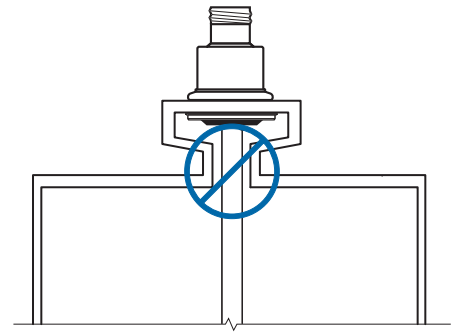

Figure 3
3. Pipe reducers that create restriction should not be used. See Figure 3.